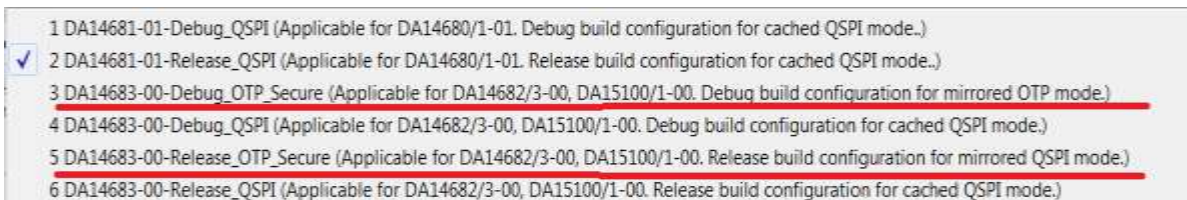

Figure 48: Secure Boot – Build Configurations
Note 18 Secure Boot loader is stored in the OTP by default. Proper build configuration of the project must be used in order for the Secure Boot's features to be available. Each configuration with `_Secure` suffix builds Secure Boot Loader as shown in Figure 48.
2. Build `ble_suota_loader` project using `DA14683-00-Release_OTP_Secure` build configuration (Figure 48)